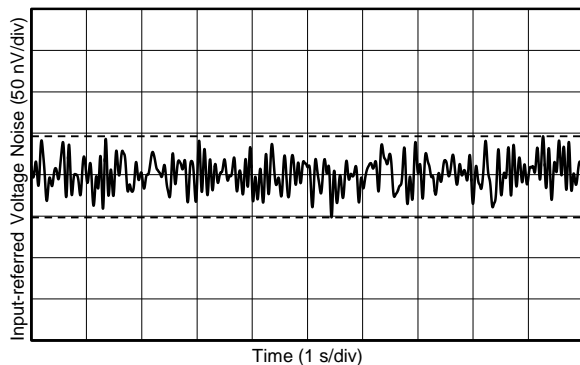

Figure 17. 0.1-Hz to 10-Hz Voltage Noise
0.1-Hz to 10-Hz Voltage Noise	Figure 17